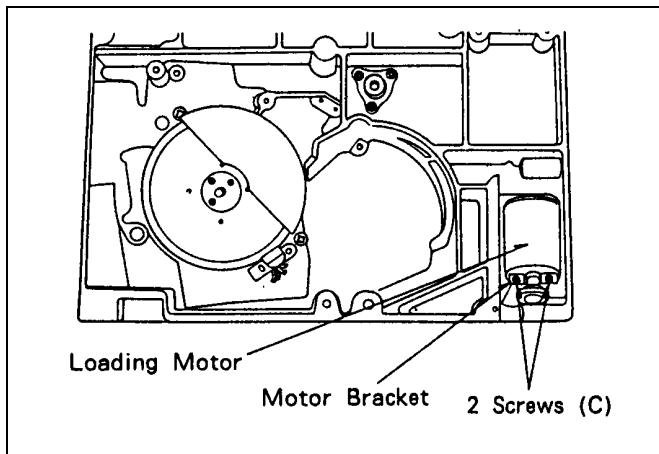

Figure 7-13-5 Loading Motor Removal
6. Unsolder 2 lead wires on Loading Motor and unscrew 2 screws (C), then remove Loading Motor as shown in Figure 7-13-5.